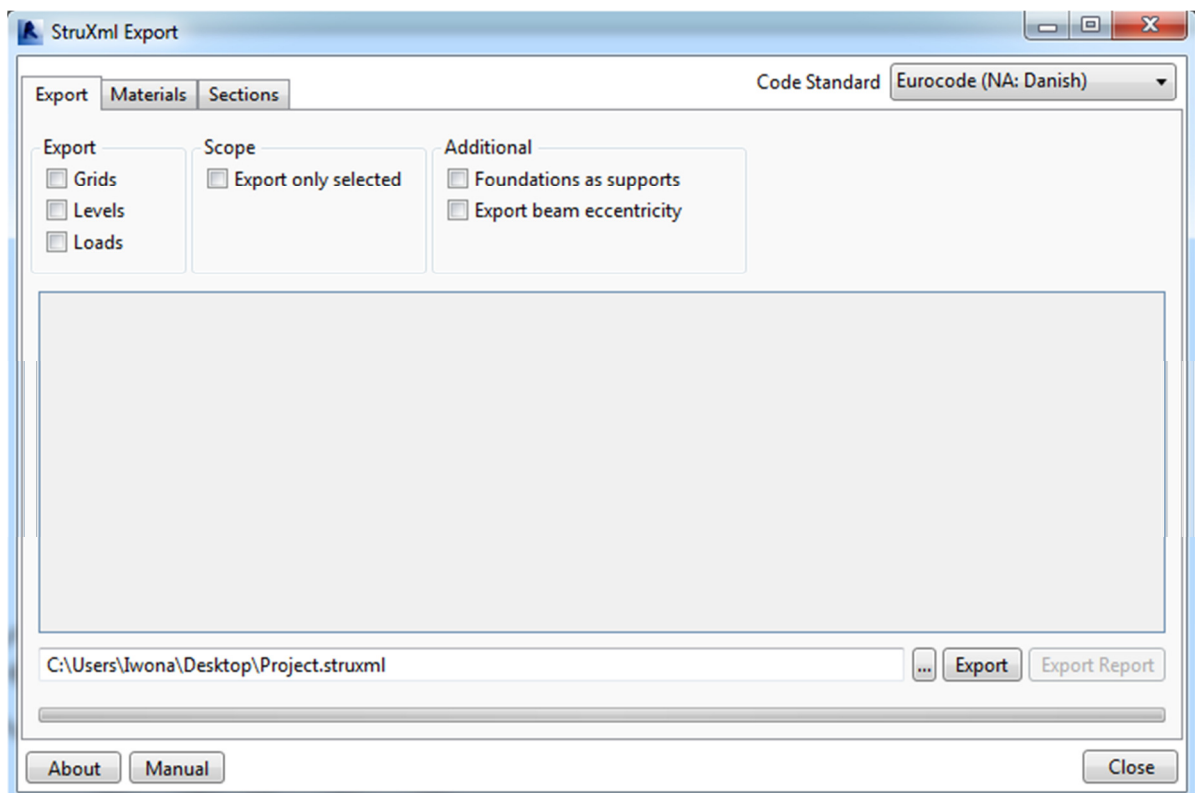

Figure II-34
2.1.1. After launching StruXML Export dialog there are no warnings about unmapped elements, as shown in Figure II-34.